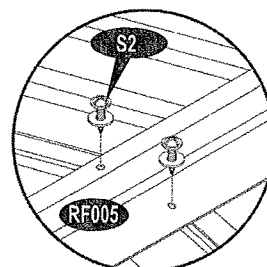

Fig. 1
26. Line up the holes of the roof flashing (RF004) with the flashing (RF003) and roof panel. Secure with (S2) screws with washer. See fig. 1 & 2.